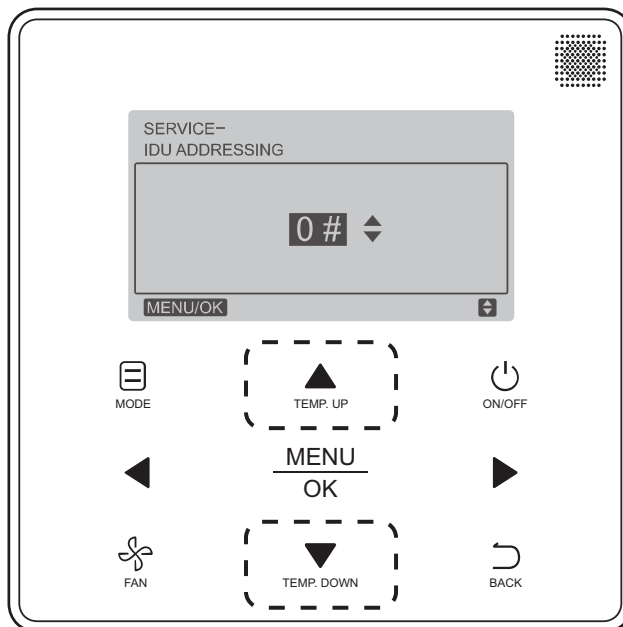

Fig. 49 —Programmable Controller (40VM900003) Setting IDU Address
3. Press **TEMP. UP** or **TEMP. DOWN** to choose the address you want to set (see Fig. 49). Press **MENU/OK** to send this address to the IDU.